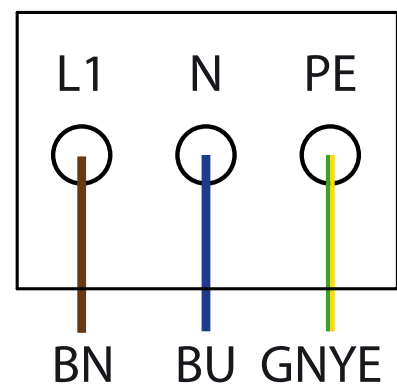

Figure 16: AC connection terminals
- 7. Connect wires in accordance with the labels on the PCB terminals (Figure 16 on page 24).